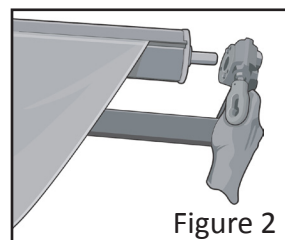

Figure 2
4. While supporting both ends of the Roller Bar, remove the Gear Assembly/Roller Bracket from the Roller Cap and Square Bar. See Figure 2.